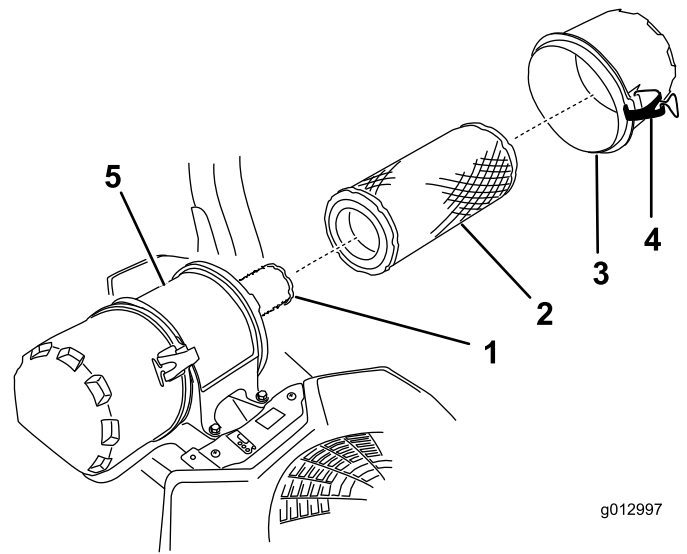

Figure 45
6. Release the latches on the air cleaner and pull the air cleaner cover off the air cleaner body (Figure 45).
8. Gently slide the primary filter out of the air cleaner body (Figure 45).
2. If the inner filter is being replaced, carefully slide it into the filter body (Figure 45).
3. Carefully slide the primary filter over the inner filter (Figure 45).
4. Install the air cleaner cover and secure the latches (Figure 45).